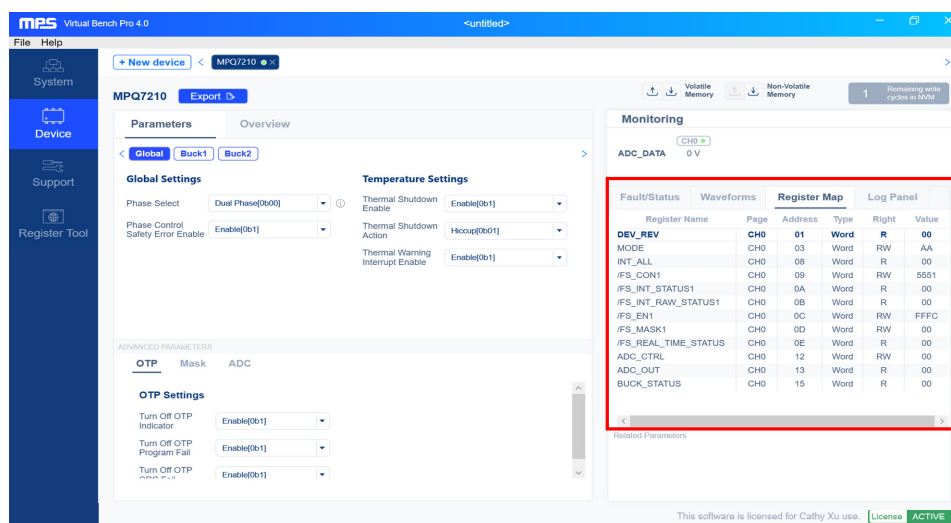

Figure 10: Register Map in Virtual Bench Pro 4.0
- Ensure that the GUI can communicate with the EVQ7210-U-00A so that the read and write registers are correct (see Figure 10).